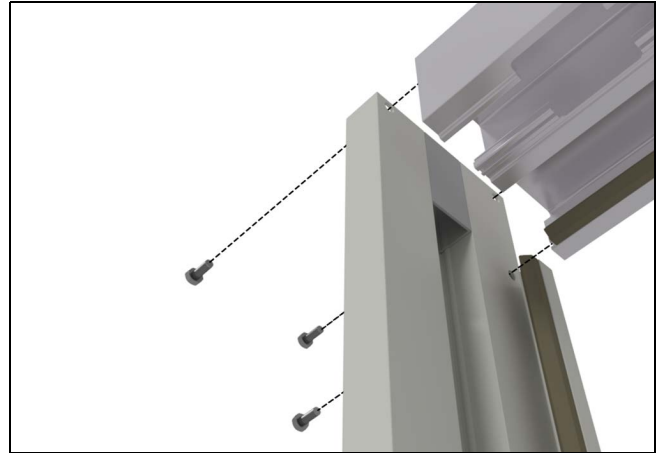

Figure 4
3. Assemble left hand jamb to Track Top using three #12 x 1 ½ TEK Hex Head screws. See Figure 4.
4. Assemble right hand jamb to Top using three #12 x 1 ½ TEK Hex Head screws. See Figure 4.